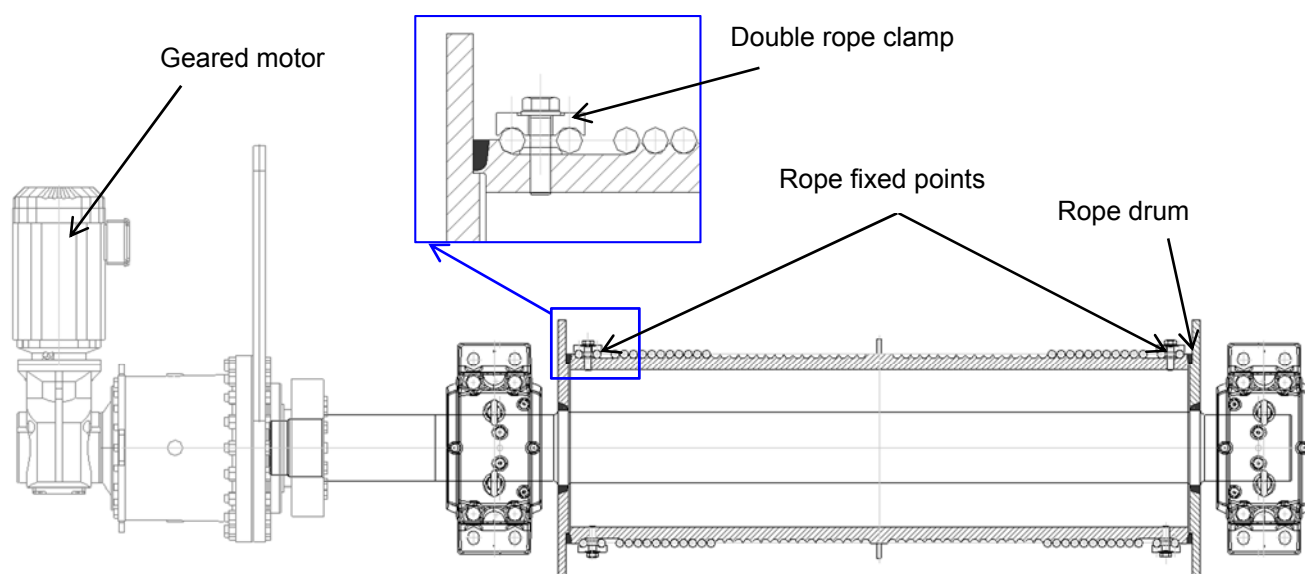

Figure 18: Rope winch
- Loosen the take-up rope fixtures at the rope fixed points (see Figure 18).